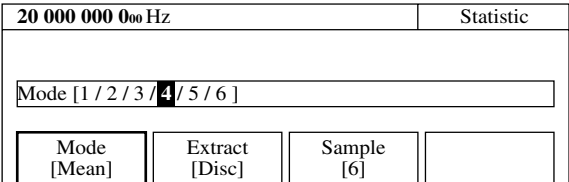

Fig. 4-30 Selecting Sample Number
- (1) Menu F1 : Sets the statistics processing mode. Selecting menu F1 displays the statistics processing mode selection screen shown in Fig. 4-28. Use the cursor keys to select either Off, Mean, Max, Min, or p-p, and then press the [Enter] key to return to the screen shown in Fig. 4-30. The parameter that you set will be displayed within the square brackets [] of the F1 menu.
(3) Menu F3 : Sets n for the sample number (2ⁿ: Overlap mode, 10ⁿ : Discrete mode). Selecting menu F3 displays the sample number selection screen shown in Fig. 4-30. Use the cursor keys in this screen to select either 1, 2, 3, 4, 5, or 6, and then press the [Enter] key to return to the screen shown in Fig. 4-30. The parameter you set will be displayed within the square brackets [] of the F3 menu.